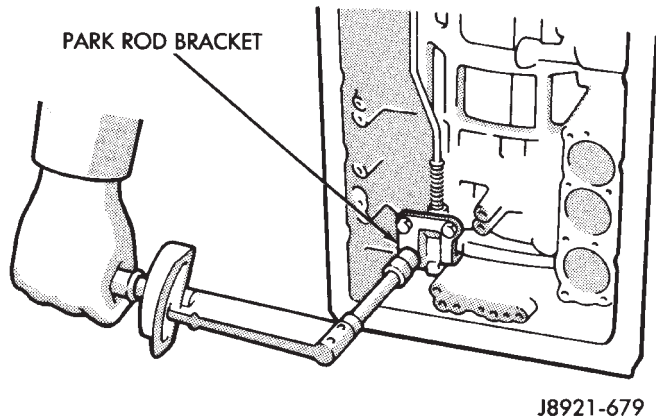

Fig. 12 Installing Park Rod Bracket
(15) Position park lock rod bracket on case and tighten bracket attaching bolts to 10 N·m (7 ft. lbs.) torque (Fig. 12).